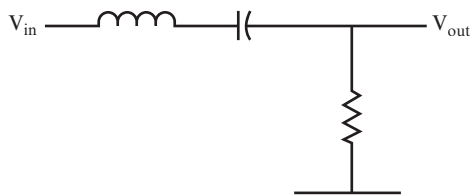
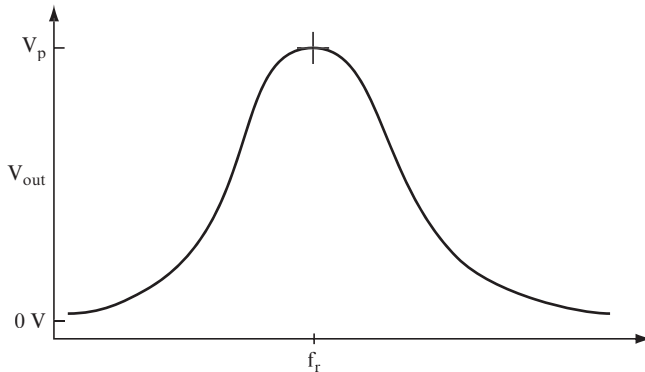

FIGURE 7.3
FIGURE 7.4
5 For the circuit shown in Figure 7.3, the output voltage is the voltage drop across the resistor.
If you plot V_{out} against frequency on a graph for the circuit shown in Figure 7.3, the curve looks like the one shown in Figure 7.4.
Under ideal conditions, if X_C were 10.6 ohms, what value of X_L results in a net reactance (X) of 0 for the circuit shown in Figure 7.3? _____
7 Calculate the resonant frequency for the circuit shown in Figure 7.3 using the capacitor and inductor values given in the following questions.
8 Calculate the resonant frequency for the circuit shown in Figure 7.3 using the capacitor and inductor values given in the following questions.